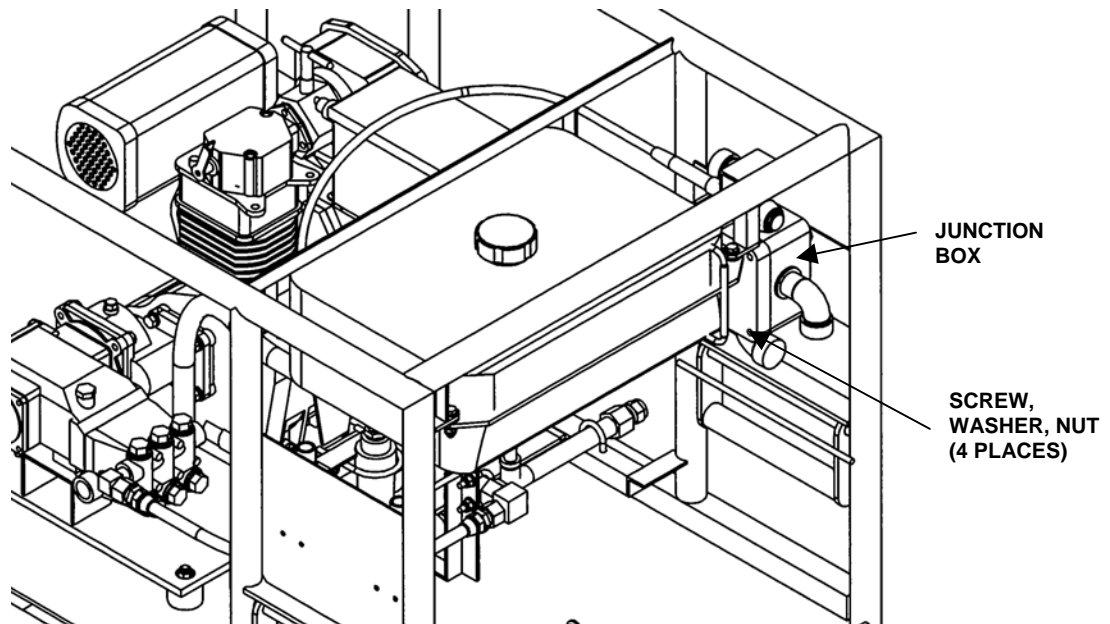

Figure 1. HP Module Junction Box Location.
2. Remove four screws from junction box cover. Remove cover. Refer to Figure 1.